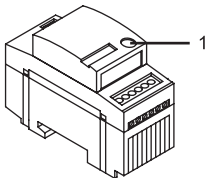

Fig. 5
The following dimmer functions are activated by actuating the function key (see Fig. 5) for different periods of time.
- Set the desired brightness value using the rotary button or the pushbutton. Then press the function key (Fig. 5) briefly.